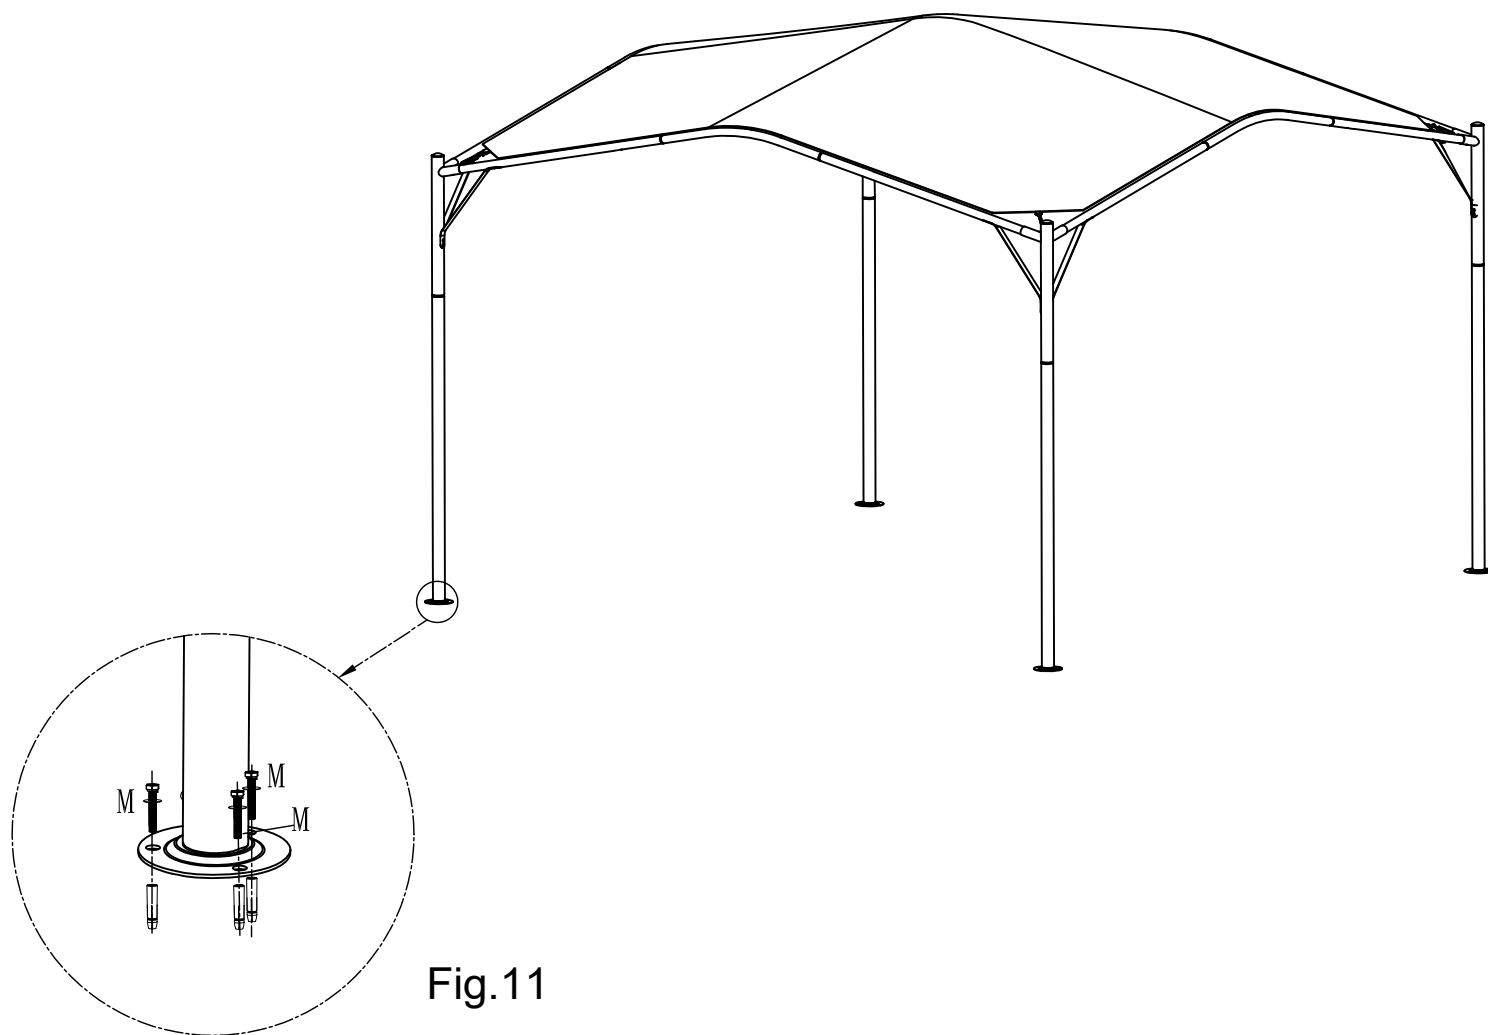

Fig.11
5.1 Use Expansion Bolt M to secure your gazebo to the ground to stabilize the gazebo as shown in Fig.11.